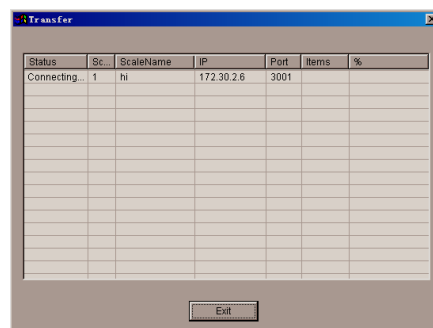

Fig. 6-6
- Select the required scale no. then click **TRANSFER** button to start transmission. The state grid as fig. 6-6 will show during down loading, This grid will disappear when completing down load. If there is already same PLU Number in the scale before down load, this PLU will be overlaid.
- Select the required scale no. then click **TRANSFER** button to start transmission. The state grid as fig. 6-6 will show during up loading, This grid will disappear when completing up load. And a PLU file SCX.plu will be created.(x-means the scale no.)